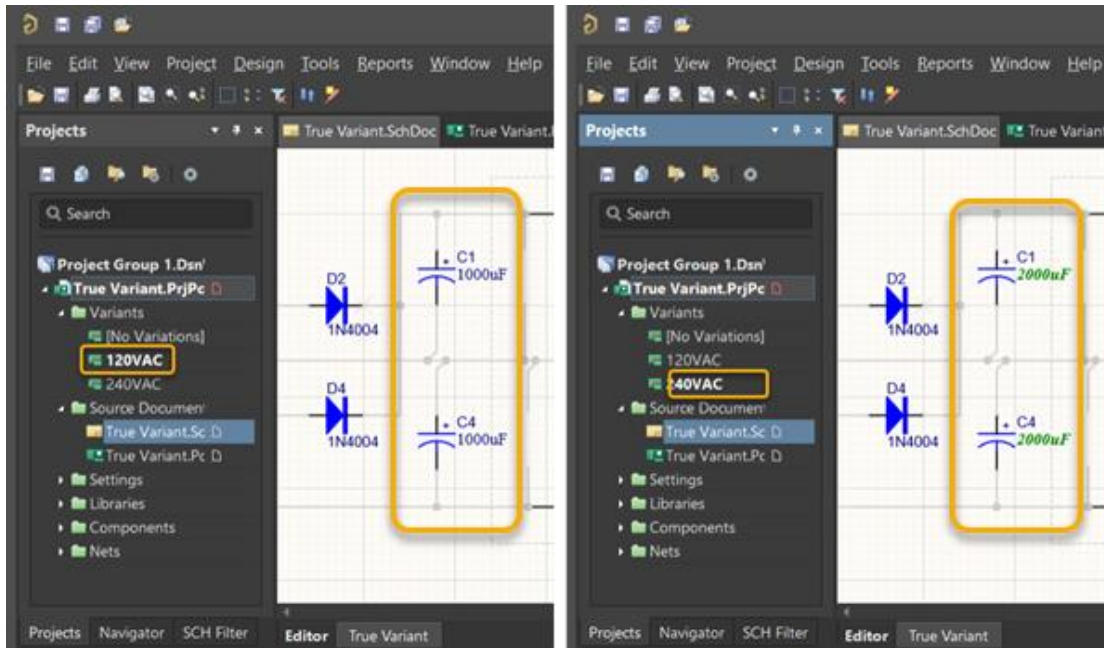

Figure 14. 120VAC and 240VAC Alternate Part Variant
43. Switch between the 120VAC and the 240VAC variants in the *Projects* panel. Observe the values of C1 and C4 depending on which variant is selected. You can see the difference in Figure 14.